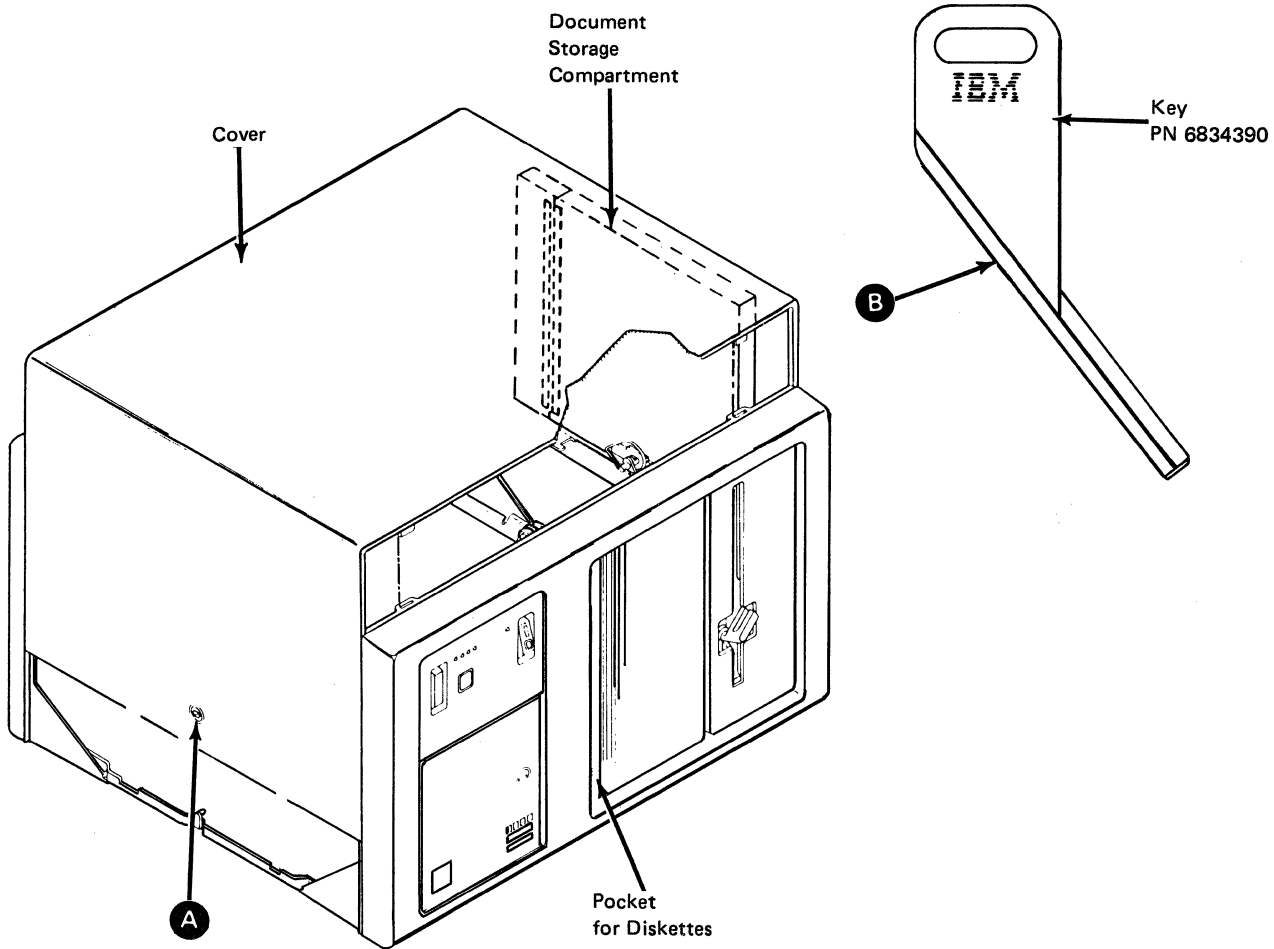

Figure 4-2. Machine Access, Cover
4.1.1 Cover Removal/CE Manuals (Figure 4-2)